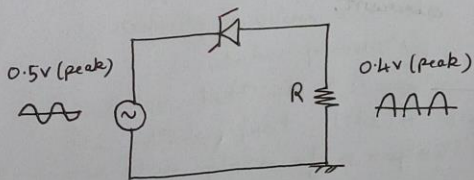

fig 4: Low-level rectifier ckt using backward diode.
- From fig 4, a sine wave with a peak of 0.5V is given as the I/P to the backward diode.